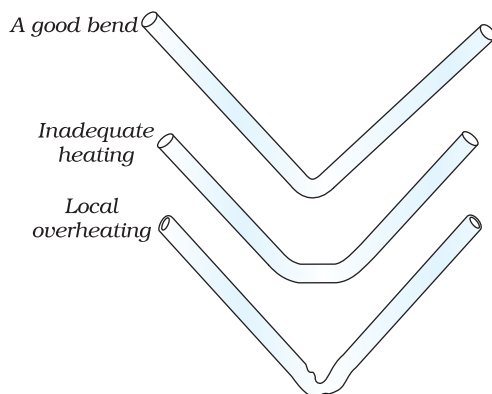

Fig. 2.4 : A glance of proper and improper bends
- (iv) Remove the tube from the flame and bend it slowly at a desired angle by pressing it against a glazed tile to ensure the coplanarity of the bend (Fig. 2.3 c). Slow process of bending prevents flattening of glass tube (Fig. 2.4).